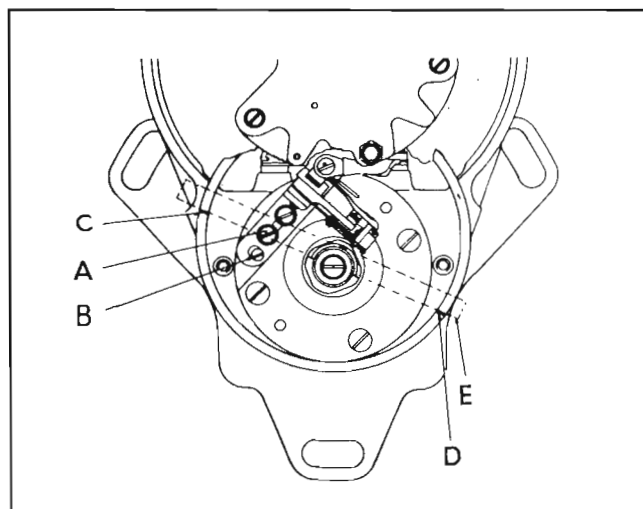

Figure 140 — Magneto Timing Diagram
(1) Remove cap screws which fasten magneto to engine rear section.
(2) Remove magneto from dowel pins in mounting pad.
(3) Turn magneto shaft until timing marks on the large distributor gear align with the timing marks on the inside of the front end plate. The running segment on the distributor rotor will now be in a position opposite the No. 1 distributor block electrode, and the breaker contacts should be just opening.
(4) Turn magneto shaft slightly until the breaker contacts begin to open and the feeler gage can be removed with a slight pull, or the timing light indicates that the points are just beginning to open.
(5) Place a steel scale on the step of the cam. Observe how close the straight edge of the scale is in relation to the timing marks on the rim of the breaker housing. If this distance is exceeded, adjust the breaker contact points as follows: (See figure 140.)